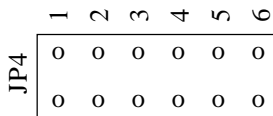

Figure 6. Input/output selection jumper block JP4 configuration.
- b. Each line selected in must be selected as input or output by installing the appropriate jumper on JP5, shownin Fig. 6. These jumper positions are given in Table 4.